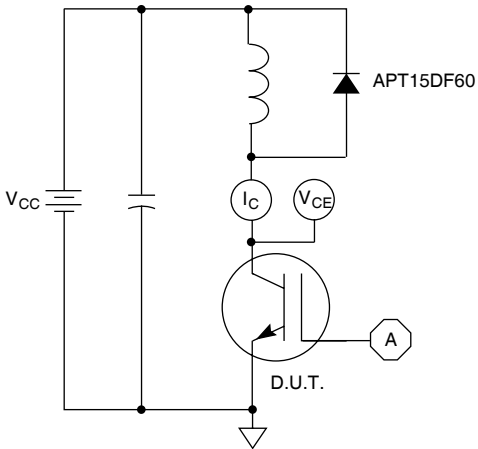

Figure 21, Inductive Switching Test Circuit
- ⑤ E_{on2} is the clamped inductive turn-on energy that includes a commutating diode reverse recovery current in the IGBT turn-on switching loss. A Combi device is used for the clamping diode as shown in the E_{on2} test circuit. (See Figures 21, 22.)
- ⑥ E_{off} is the clamped inductive turn-off energy measured in accordance with JEDEC standard JESD24-1. (See Figures 21, 23.)